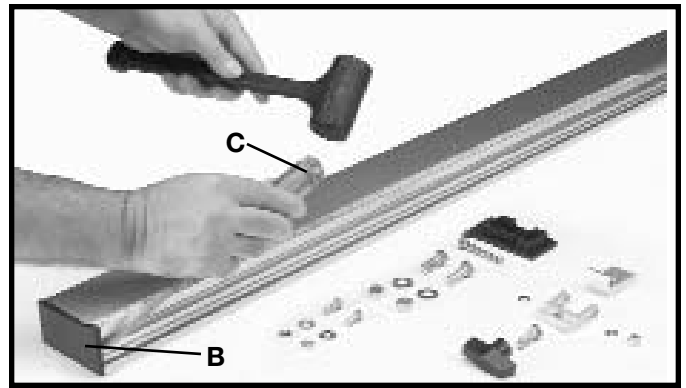

Fig. 19
2. The guide rail has end caps inserted into each end of the rail. Remove the left end cap (B) Fig. 19, by inserting a flathead screwdriver (C) into the channel in front of the guide rail and press outward against the inside of the end cap (B) as shown. The end cap (B) will pop out. **NOTE:** Do not attempt to remove the end cap by forcing the screwdriver between the end cap and the end of the rail. This will damage both the cap and the rail.